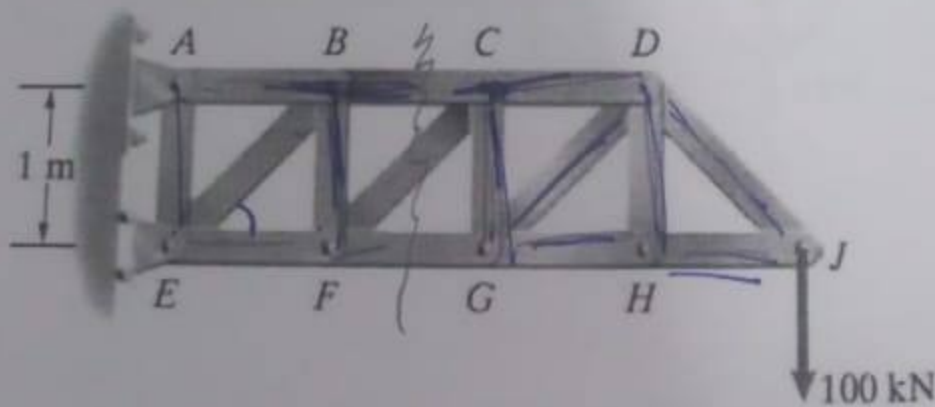

Figure 5. A Plane Truss
- Q5: The truss supports a 100 kN load at J as shown in the Fig. 5 below. The horizontal members are each 1 m in length.